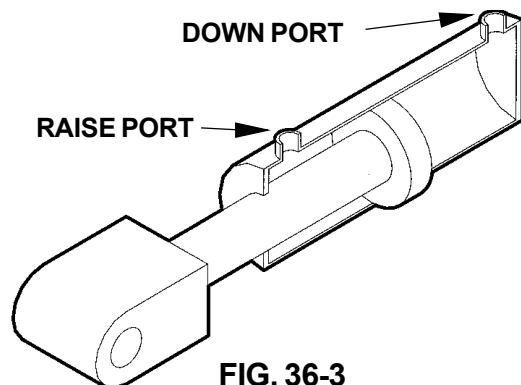

FIG. 36-3
3. Check the Hydraulic Cylinder. With the Platform on the ground, remove the hydraulic line from the Down Port of the Cylinder (**FIG. 36-3**). Raise the Platform even with the bed. Allow pump motor to run two seconds more while you watch for hydraulic fluid at the Down Port. A few drops of hydraulic fluid escaping the Down Port is normal; however, if it streams from the Down Port, Piston Seals are worn. Replace Seals.